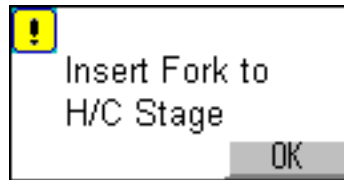

Figure 3-19. Displayed Window before Inserting Fork
5. Wait window shown in Figure 3-19, then insert the transfer rod fork to carousel with care and press “OK” with keeping the fork.